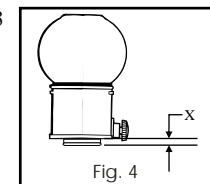
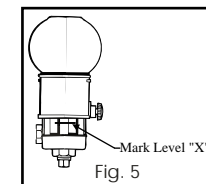

Fig. 4
Fig. 5
8. Run equipment to check lubricant level. If oil level is to low, remove reservoir and raise arms on level adjuster slightly, then repeat steps 6 & 7. If oil level is too high, remove reservoir, lower level adjuster arms slightly and drain equipment until oil level is reached, then repeat steps 6 & 7. Turn set screw to hold reservoir assembly in place. Adjustment tip: Measure distance between bottle and casting edge (Fig. 4 - this dimension may vary), replace bottle on adjustment arm in lower casting - mark dimension on outside of lower casting with temporary marker. (Fig. 5) This is the level setting (this step can be eliminated if the **Opto Laser Level Tool** is being used to set oil level).